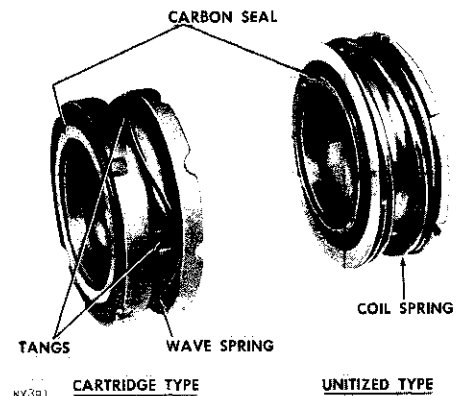
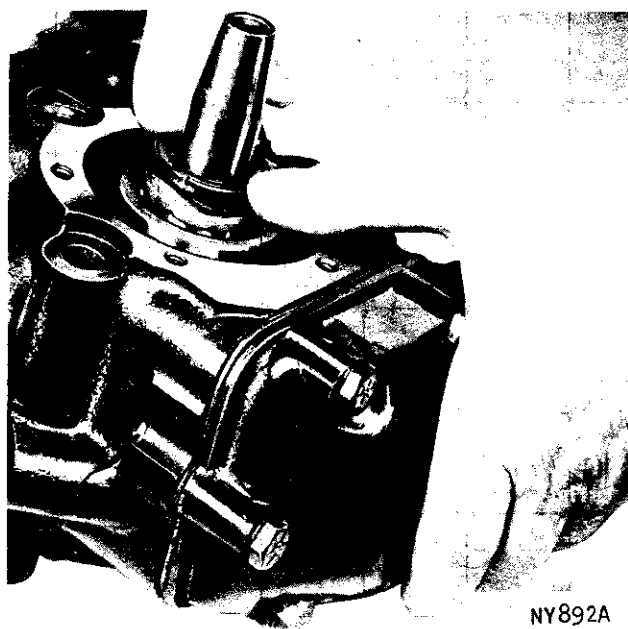

Fig. 41—Gas Seal Identification
Fig. 42—Inspect the Indexing of Tangs
The crankshaft gas seal replacement package consists of the crankshaft gas seal assembly and the crankshaft bearing housing seal face plate. Two types of crankshaft seals are supplied for service, as shown in Fig. 41. If the replacement package contains the cartridge-type seal, follow the entire installation procedure given below. If the replacement package contains the unitized-type seals, steps 1, 2, and 4 will not apply.
(1) Before installing the cartridge-type gas seal assembly, inspect the assembly to make sure that tangs index in slots of mating part. This will insure the proper spring action. The carbon seal must be assembled as shown in Fig. 41.
(2) Hold the seal firmly on the outside edge to prevent it from rotating out of the index slots.
(3) Lubricate the crankshaft with refrigerant oil. Slide the seal on the crankshaft with the smooth (carbon seal) surface up, or toward the front of the compressor.
(4) When the seal bottoms against the crankshaft bearing, inspect the indexing of tangs again by pressing down with thumbs to see if it has the proper spring action. (Refer to Fig. 42).
(5) Lubricate and install the crankshaft bearing housing seal face plate with the smooth (micro-finish) side up. Use a sleeve with the minimum inside diameter of  $1\frac{3}{8}$  inches to avoid damaging the micro-finish sealing surface of the face plate. Tap sleeve lightly until the seal face is fully seated in the housing.
(6) Install the bearing housing oil seal, using plenty of refrigerant oil.
(7) Install the housing, making sure that it is in proper alignment with the screw holes. The gas seal assembly may be damaged if the bearing housing is rotated after the housing seal contacts the carbon seal.
(8) Install the bolts and tighten 10 to 13 foot-pounds torque.